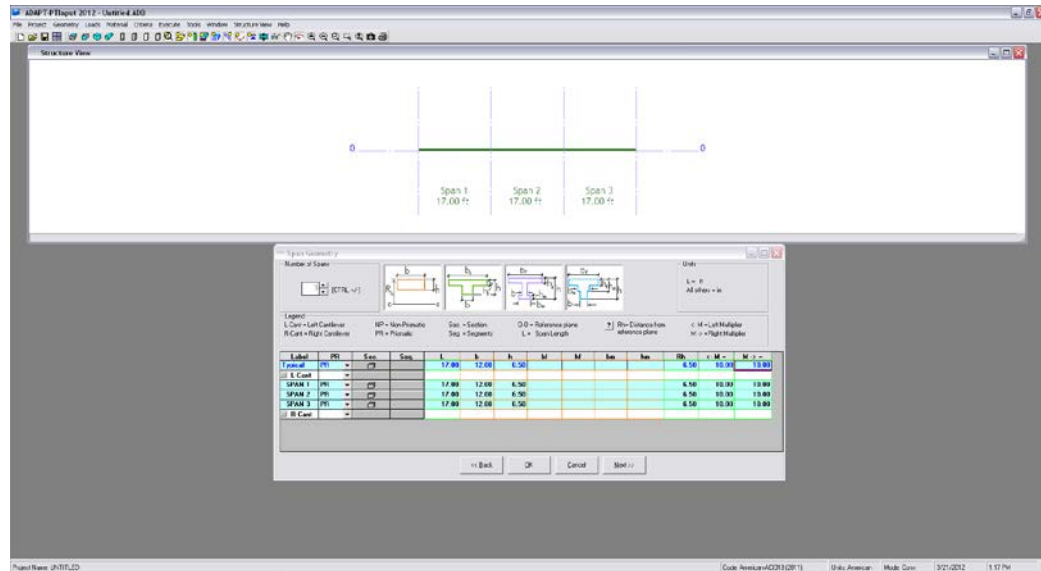

FIGURE 3.1-4
3.1.2.1 Enter Span Geometry (Fig. 3.1-4)